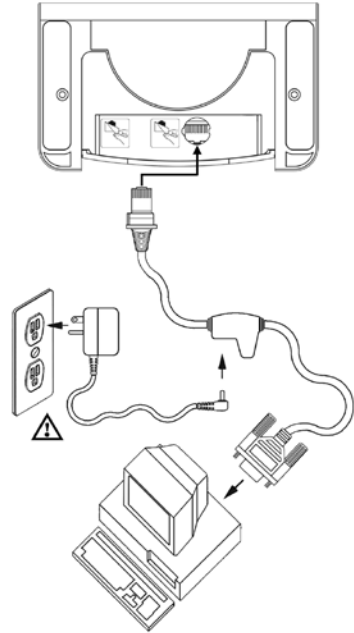

Figure 8. RS232 Interface
2. Connect the keyed VLink cable to the 10-pin Multi-Interface jack. It is the only circular keyed jack located on the bottom of the 7820 (see *figure 8*).